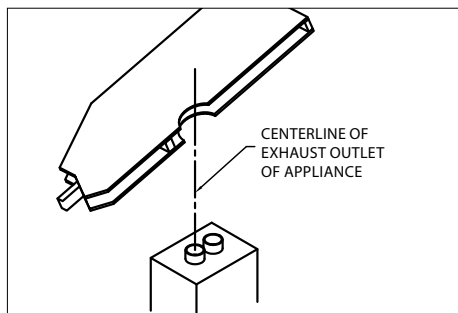

Figure 17
- Locate penetration. (**Fig.17**)